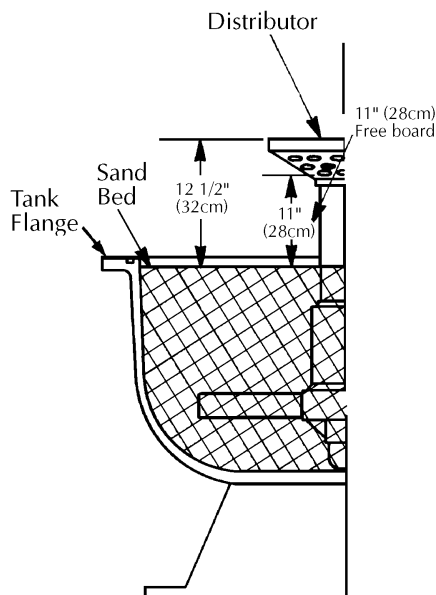

Figure 3 - Fill sand bed as shown.
4. When full, top of sand bed should be about 12-1/2" (31.75 cm) below top of distributor (about 1-1/2" (3.8 cm) below tank flange (see Figure 3)).